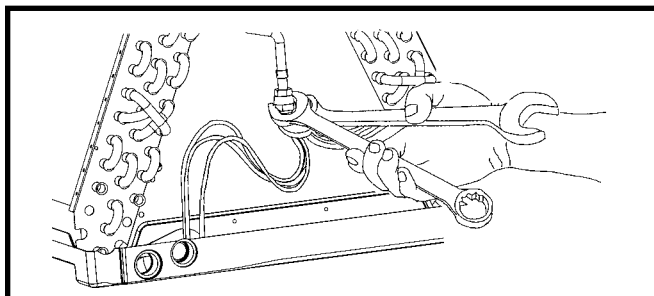

Figure 2. Loosening of Nut and Distributor Body
1. Using two wrenches, loosen the nut and distributor body as shown in Figure 2. Turn the assembly nut counter-clock-wise until the orifice body halves are separated.